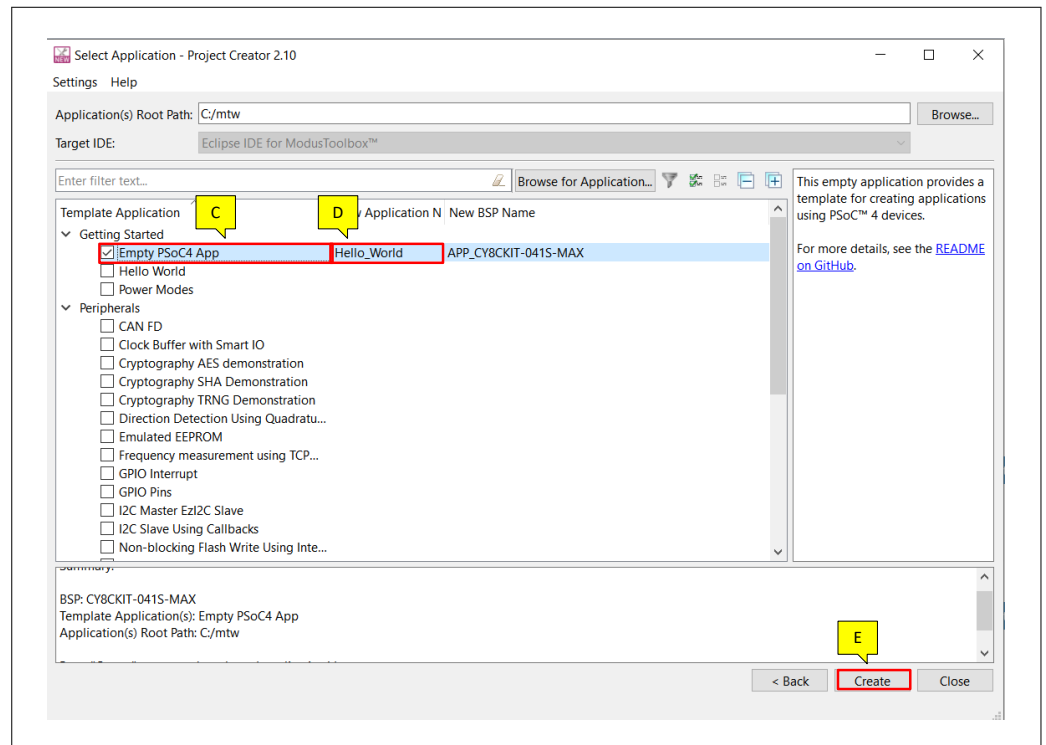

Figure 15 Choose starter application
- c. In the **Select Application** dialog, select **Empty App** starter application, as Figure 15 shows.
- e. Click **Create** to create the application, as Figure 15 shows, wait for the Project Creator to automatically close once the project is successfully created.